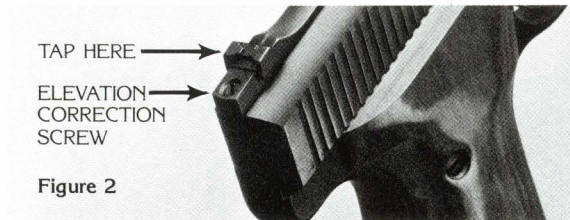

Figure 2
1. To raise the point of impact, turn the elevation screw located just behind the rear sight in a clockwise direction. To lower, turn the elevation screw in a counter-clockwise direction (Fig. 2).
2. To move the point of impact right or left, the rear sight must be moved a very slight amount in its dovetail slot. This accomplished by lightly tapping the rear sight in its dovetail in the same direction you want the bullet impact to move. A small wood dowel or comparable non-metallic object should be used to bear against the sight during tapping to avoid marring the finish (Fig. 2).